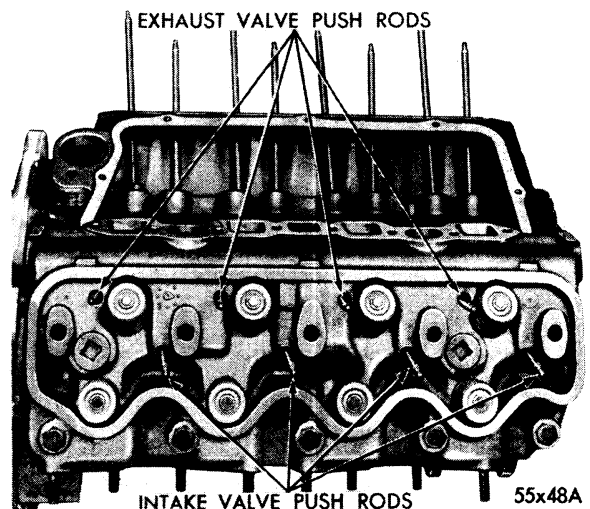

Fig. 74—Push Rods Installed In Head
- (2) Install lower cylinder head bolts (exhaust manifold side) and tighten only tight enough to keep cylinder head properly positioned.
- (3) Install intake and exhaust push rods into their respective positions. (Fig. 74.)
- (4) Position rocker arm assembly (along with cylinder head bolts) on cylinder head.